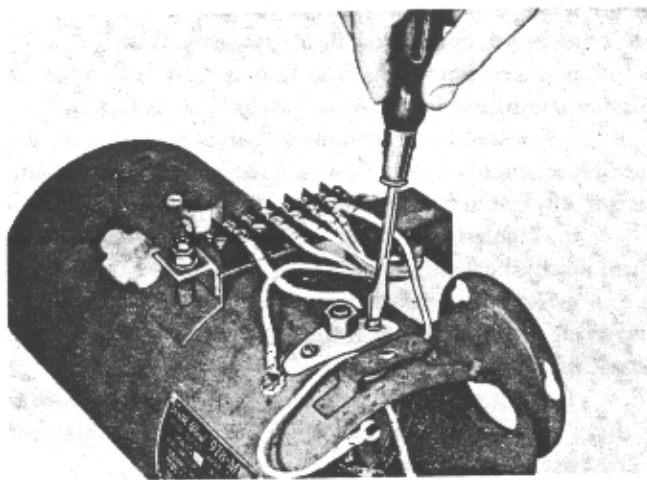

Figure 44
1. Loosen two screws in standpipe collar (Figure 44).